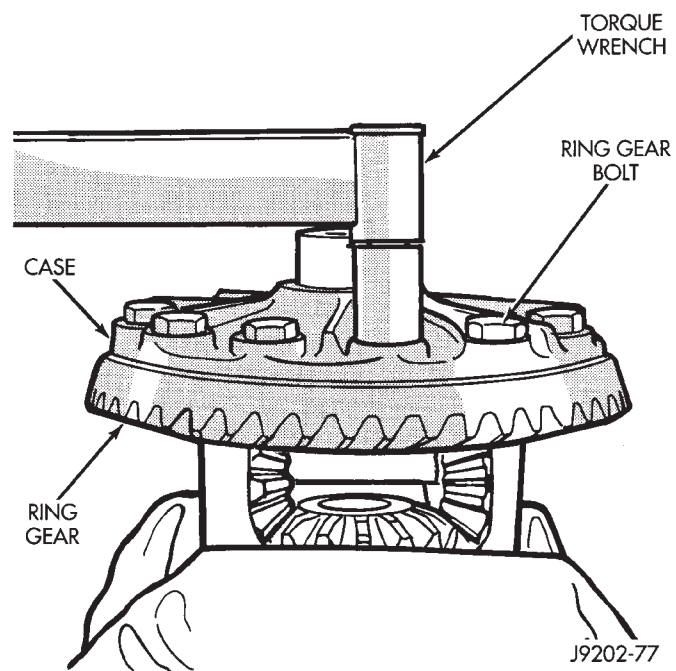

Fig. 17 Ring Gear Bolt Installation
(14) Invert the differential case and start two ring gear bolts. This will provide case-to-ring gear bolt hole alignment.
(15) Install new ring gear bolts and alternately tighten to 95-122 N·m (70-90 ft. lbs.) torque (Fig. 17).
(17) Lubricate all differential components with hypoid gear lubricant.